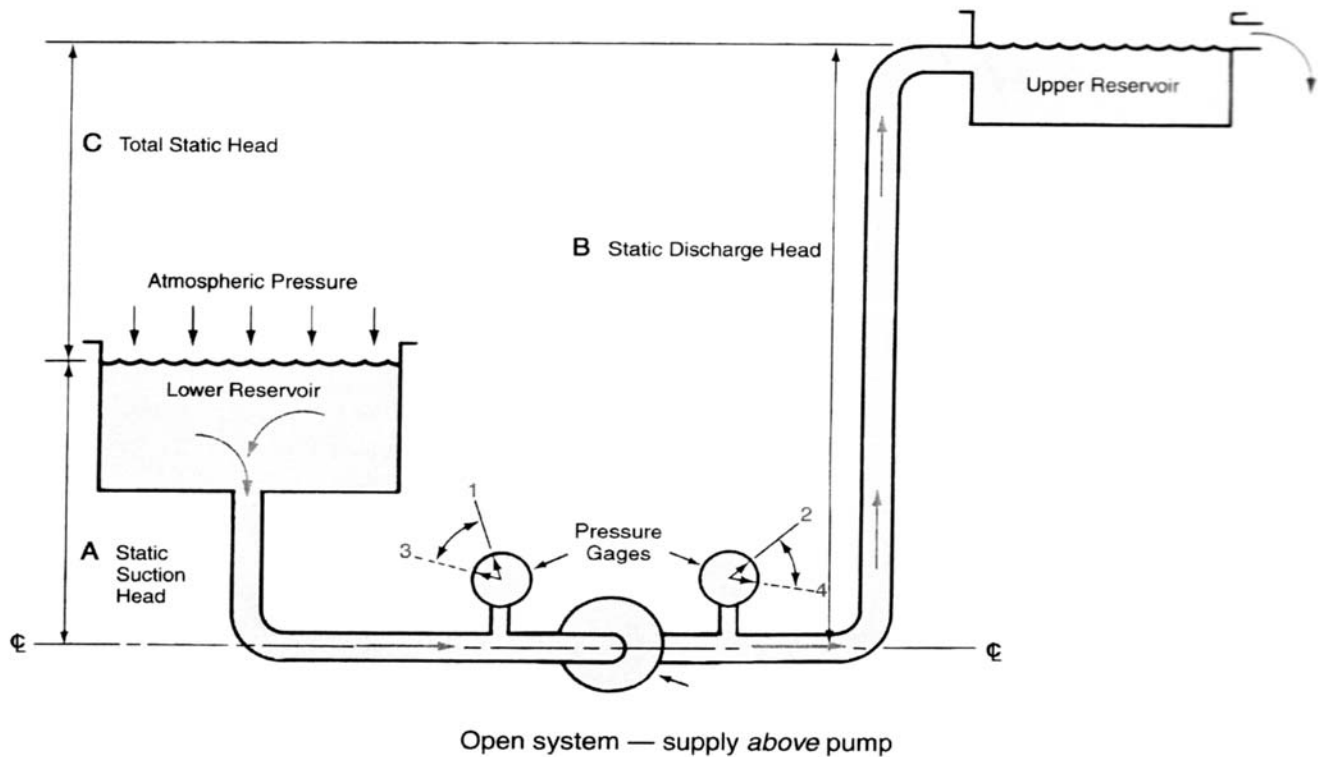

Fig. 2
4. See Fig. 2. The suction pressure gage reads 5 psig at position A, and the discharge pressure gage reads 30 psig at position B. What is the total static head in psig?